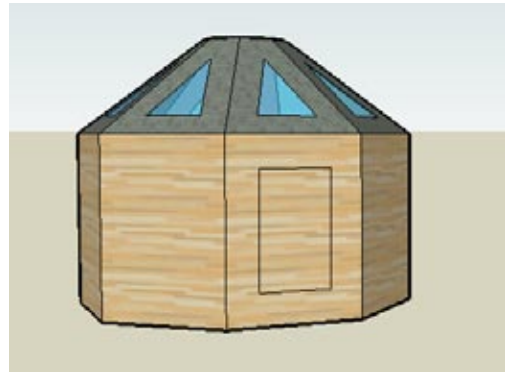

Figure 1-48
10. While the face is highlighted, double-click on it. This offsets the face by the same offset distance you used to make the triangular roof window (Figure 1-48).